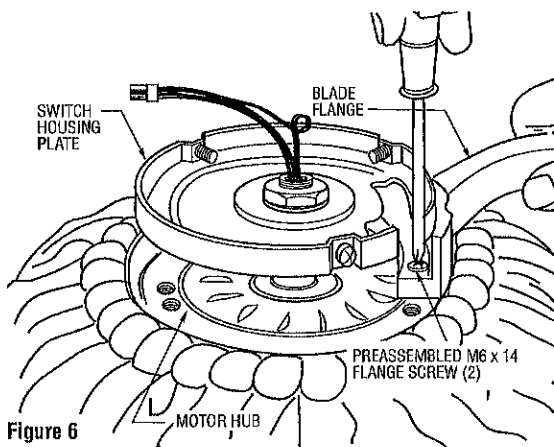

Figure 6
- ☐ 10. Rotate the motor hub until the flange screw hole is next to the cutout in the switch housing plate. Loosely attach one blade assembly to the motor hub using two M6 x 14 flange screws preassembled in flange. Make sure the screws are **NOT** tightened. (Figure 6.) Repeat this procedure for the other four blade assemblies.